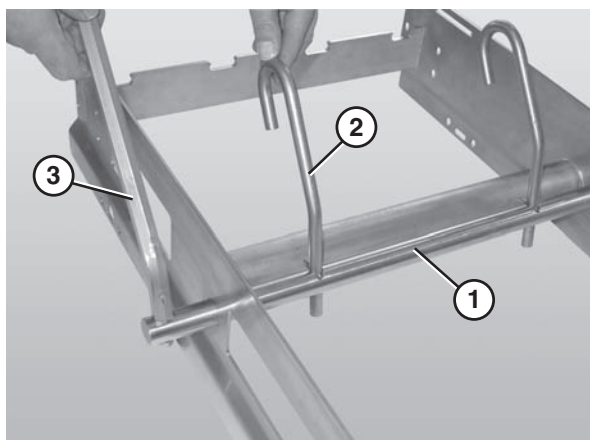

Figure 32
1. Slide the belt lift pivot bar (Figure 32, item 1) through the designated holes in the frame.
2. Attach the lifter bars (Figure 32, item 2) to the belt lift pivot bar (Figure 32, item 1). Make sure the hooked ends of the lifter bars are facing down when resting against the frame.
3. Attach the lifter handle (Figure 32, item 3) to the belt lift pivot rod.